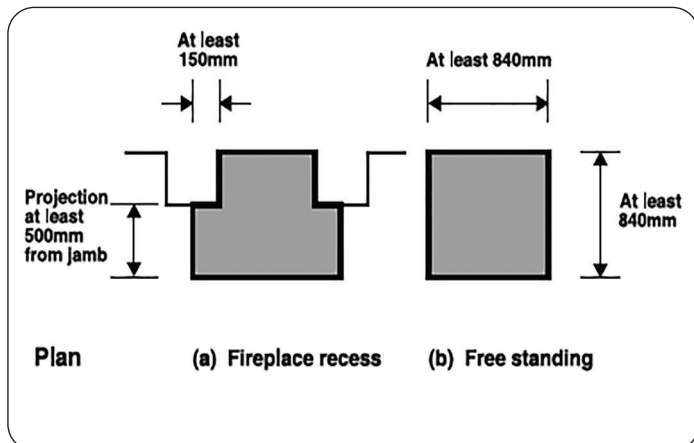
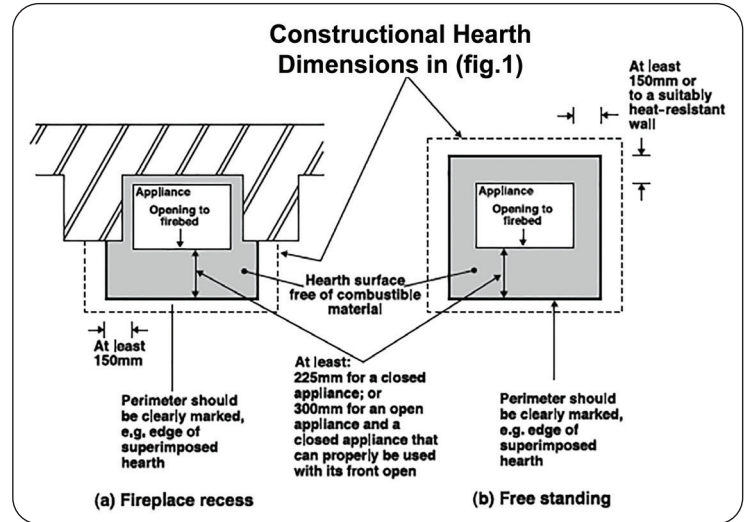

fig.1 Constructional Hearth Dimensions for Solid Fuel Appliances & Open Fires
fig.2 Non Combustible Hearth surrounding Solid Fuel Appliance
Hearths should be constructed from suitably robust materials & to appropriate dimensions. (fig.1) A way of making provision would be to adopt the guidelines outlined below & to provide a hearth appropriate to the temperatures that the appliance can create around it.
**B.** Constructional hearths in accordance with the guidelines outlined. (fig.2) Constructional Hearths should have dimensions as outlined in figure 1 above. They should be made of solid, non-combustible such as concrete or masonry, at least 125mm thick, including the thickness of any non-combustible floor and/or decorative surface.